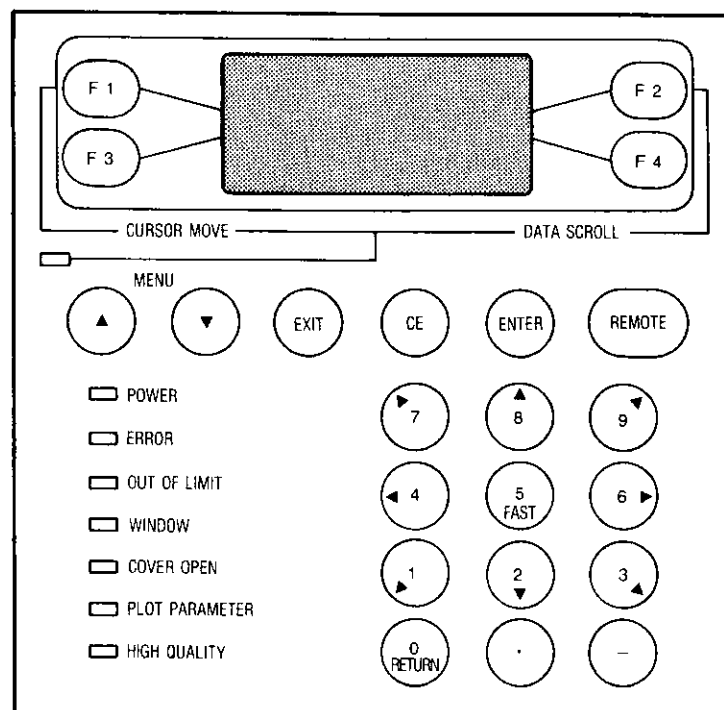

Figure 4.2 MUTOH XP-500 Series Plotter Control Panel
| ⑭ Control Panel | Panel with LCD, function keys, operation keys, numeric keys, and indicator lights. Figure 4.2 shows a detailed illustration of the Control Panel. |
Figure 4.2 shows the Control Panel.
The Control Panel has indicator lights that show the current status of the plotter. Figure 4.2 shows the location of the indicator lights. Table 4.1 lists the indicator lights and plotter status when the light is ON.